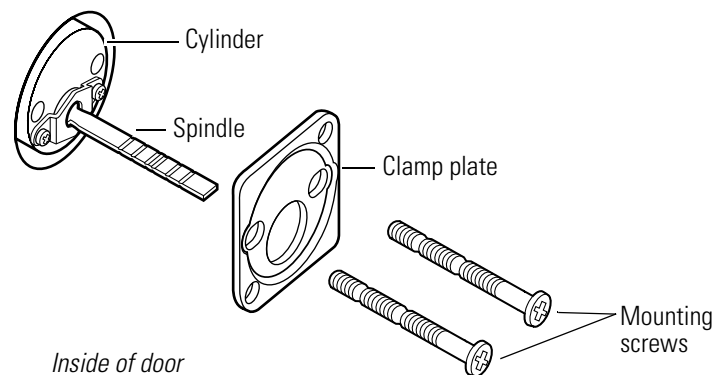

Figure 5.13 Reinstalling the rim cylinder
6. On the inside of the door, orient the cylinder and clamp plate as shown in Figure 5.13.